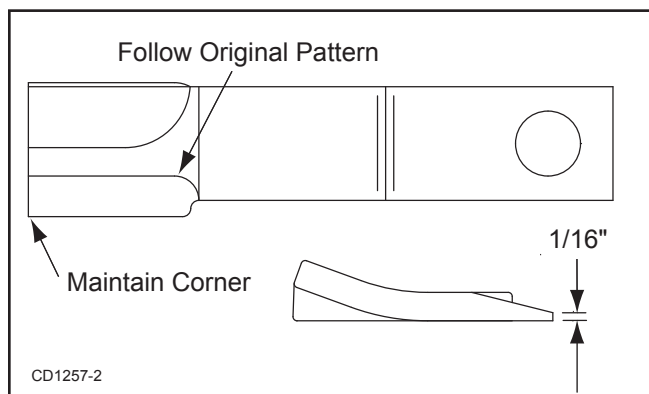

Figure 12. Blade Sharpening
1. Jackstands with a load rating of 1000 lbs. or more are the only approved blocking device for this cutter. Install jackstands (shown by Xs in Figure 12) under the cutter before working underneath unit.